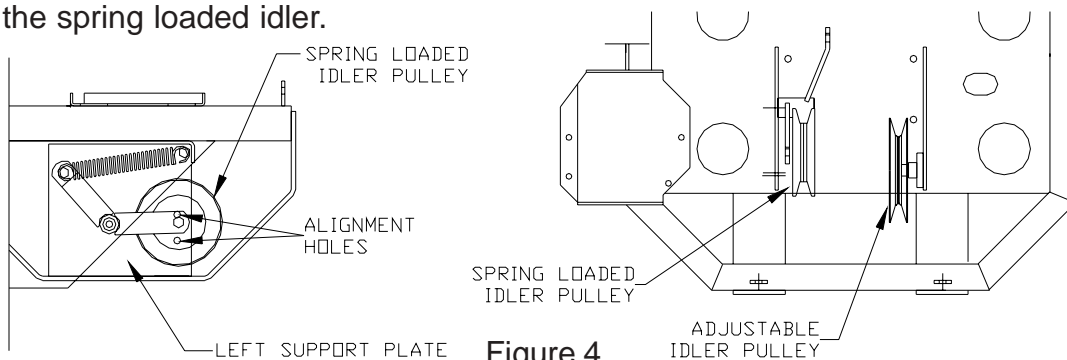

Figure 4
2. Check to make sure the bolt head in the spring loaded idler pulley, on the left side of the engine deck is positioned between the two alignment holes in the left support plate (See Fig 4).